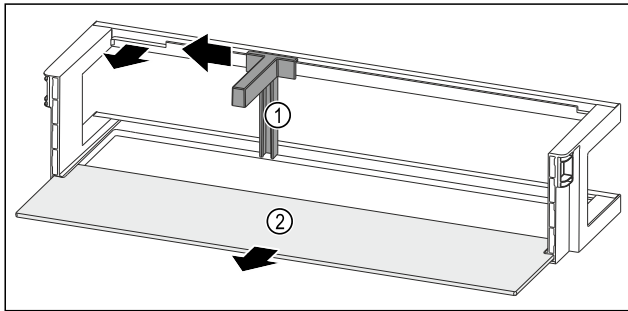

Fig. 181 Door rack with bottle holder and shelf
- ▶ Slide the bottle holder Fig. 181 (1) to the side as far as the recess.
- ▶ Remove the bottle holder Fig. 181 (1).
- ▶ Remove the shelf Fig. 181 (2).